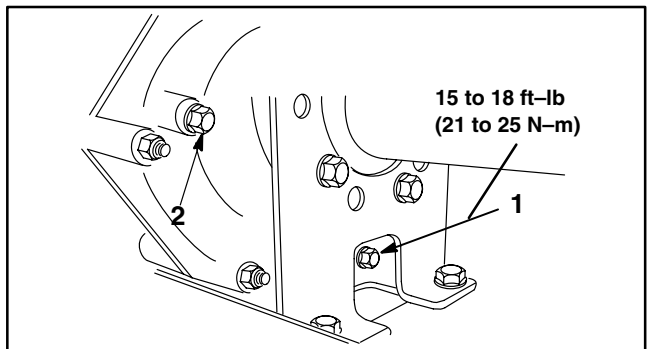

Figure 19
2. Remove drain plug from the right side of the transaxle case. (Fig. 19) Let fluid flow into a drain pan.
3. When fluid stops draining, reinstall and tighten drain plug (Fig. 19). Torque plug from 15 to 18 ft-lb (21 to 25 N-m).
- B. Or, fill case until oil level is at the bottom level of the indicator hole with the plug removed (Fig. 19).
5. Reinstall level indicating plug and fill cap. Tighten plugs that were removed (Fig. 19 and 20).